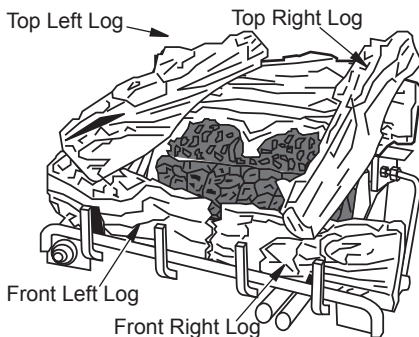

Figure 27 - Installing Logs
4. Place top left log as shown in Figure 27. The bottom of the log is shaped to fit onto the recessed areas of the front left log and the rear log. The recessed areas are painted yellow.
5. Place top right log as shown in Figure 27. The bottom of the log is shaped to fit onto the recessed areas of the front right log and the rear log. The recessed areas are painted yellow.